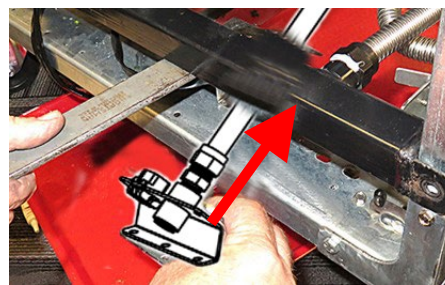

Figure 39
38. Using a prybar, lift the oil manifold up slightly to allow the oil dispose outlet assembly 1088450 to slide in between the gas and oil manifolds (see Figure 39).